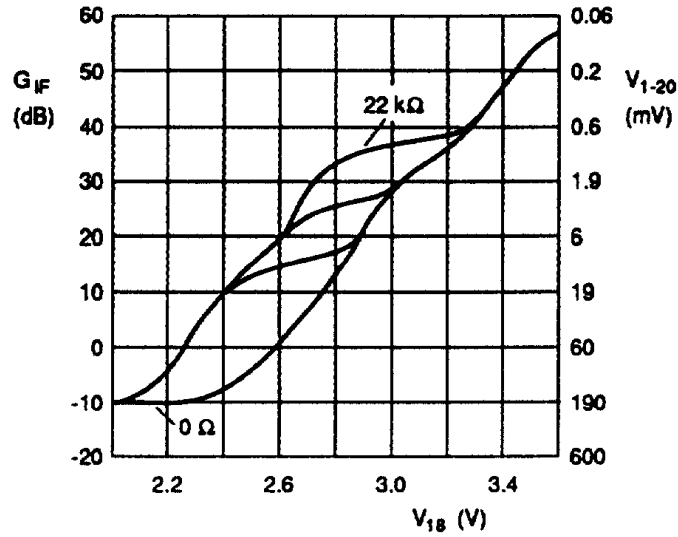

Fig.5 AGC characteristics with different values of R2.
| V _{1-20(rms)} | lower IF input signal for starting point of tuner take-over; see Fig.5 (RMS value) | R ₂ = 22 kΩ | – | – | 1 | mV |
| | upper IF input signal for starting point of tuner take-over; see Fig.5 (RMS value) | R ₂ = 0 Ω | 50 | – | – | mV |
3. The starting point of tuner AGC can be adjusted by the resistor at pin 2. Fig.5 shows the AGC characteristic.